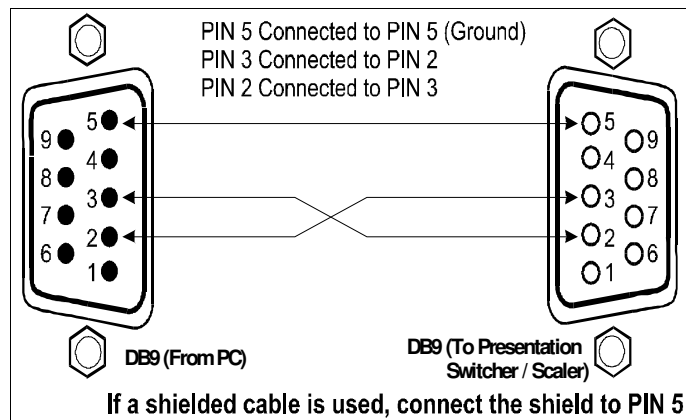

Figure 8: Connecting the PC
- Connect the RS-232 DB9 port on your PC to the RS-232 DB9 rear panel port on the **VP-724xl** unit, forming a cross-connection¹, as Figure 8 illustrates